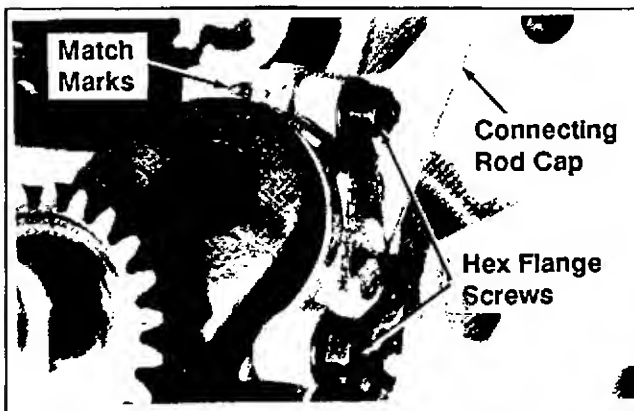

Figure 11-6. Installing Connecting Rod Fasteners.
4. Lubricate the crankshaft journal and connecting rod bearing surfaces with engine oil. Install the connecting rod cap to the connecting rod. See Figure 11-6.